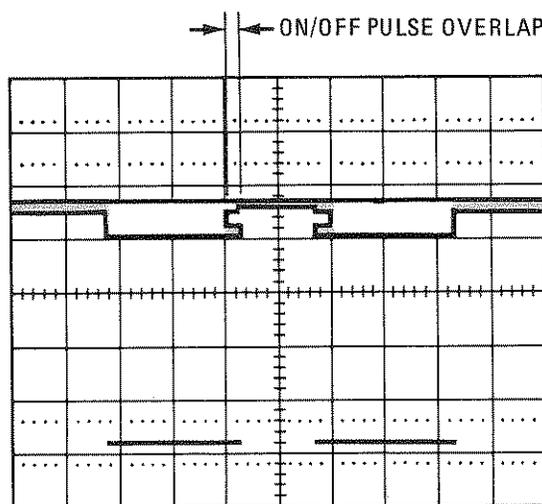

Figure 5-43. On/Off Pulse of Misadjusted Circuit Showing Overlap
8. Secondly, ensure that the marker OFF pulse does not overlap the marker ON pulse. Figure 5-43 illustrates an improper marker OFF pulse. When this occurs, change the value of A7R4 to eliminate overlap. The optimum value for A7R4 allows the maximum number of marker OFF pulses without overlapping the ON pulse. The typical value for A7R4 is 1200 Ohms and the minimum value is 1000 Ohms. (To observe marker OFF pulses, vary RF OUTPUT power between +3 dBm and +13 dBm.)